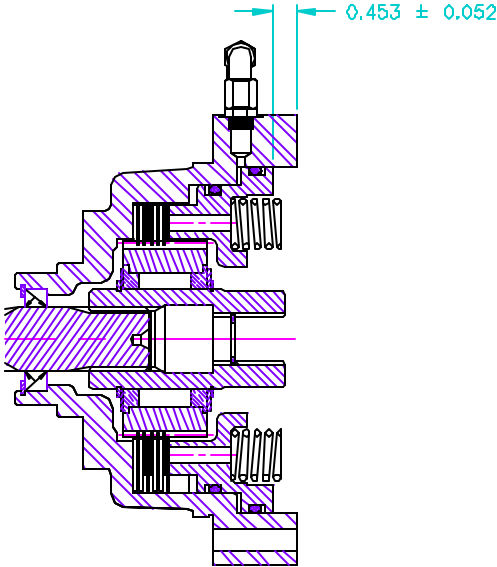

Fig. 7
12. After installation, check the brake stack up to make sure that the dimensions are within the tolerance shown on (*See Fig. 7*) drawing. If your measurement is greater than shown, either some friction discs and stator plates have been left out, or the friction discs are worn beyond acceptable tolerances. If your measurement is less than shown, too many plates or discs have been inserted or they are not seated properly.
13. Install o-ring (*Item 28*) and back-up ring (*Item 29*) onto piston making sure back-up ring is closest to outer edge (*See Fig. 7*). Next install o-ring (*Item 30*) and back-up ring (*Item 31*) onto piston making sure back-up ring is closest to outer edge (*See Fig. 7*).